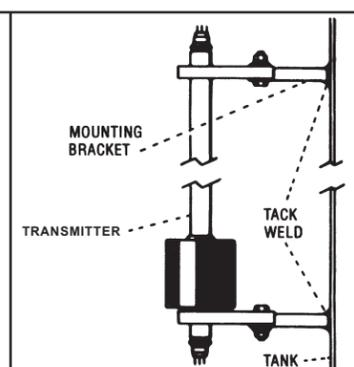

Fig. 13
- Wrap floats in protective covering. Place and hold top transmitter unit in predetermined position in tank with mounting brackets on welding surface (Fig. 13). Tack-weld both mounting brackets in place.